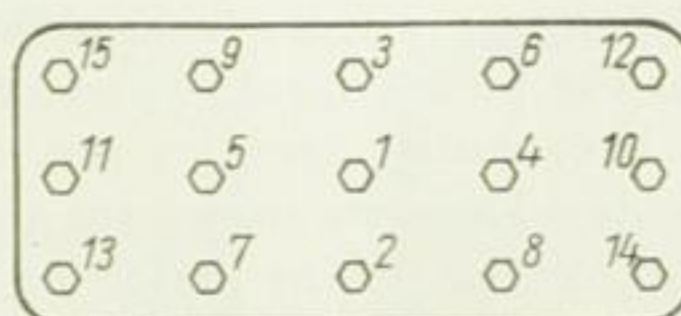

Fig. 51. The cylinder-head screws must be tightened in the specified sequence
- (9) The fillister-head screws must be tightened crosswise in the sequence shown in Fig. 51, and uniformly.